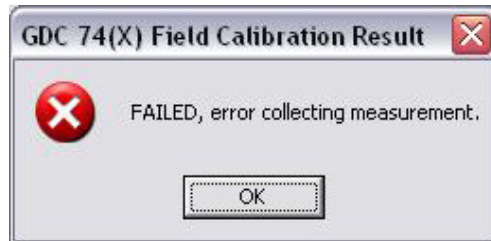

Figure 5-9. Calibration Failed Screen
23. After the altitude calibrations are complete, the 'Program Calibration to Unit?' screen (Figure 5-9) appears. Click 'OK' to program the new calibration to the GDC 74(X) unit.